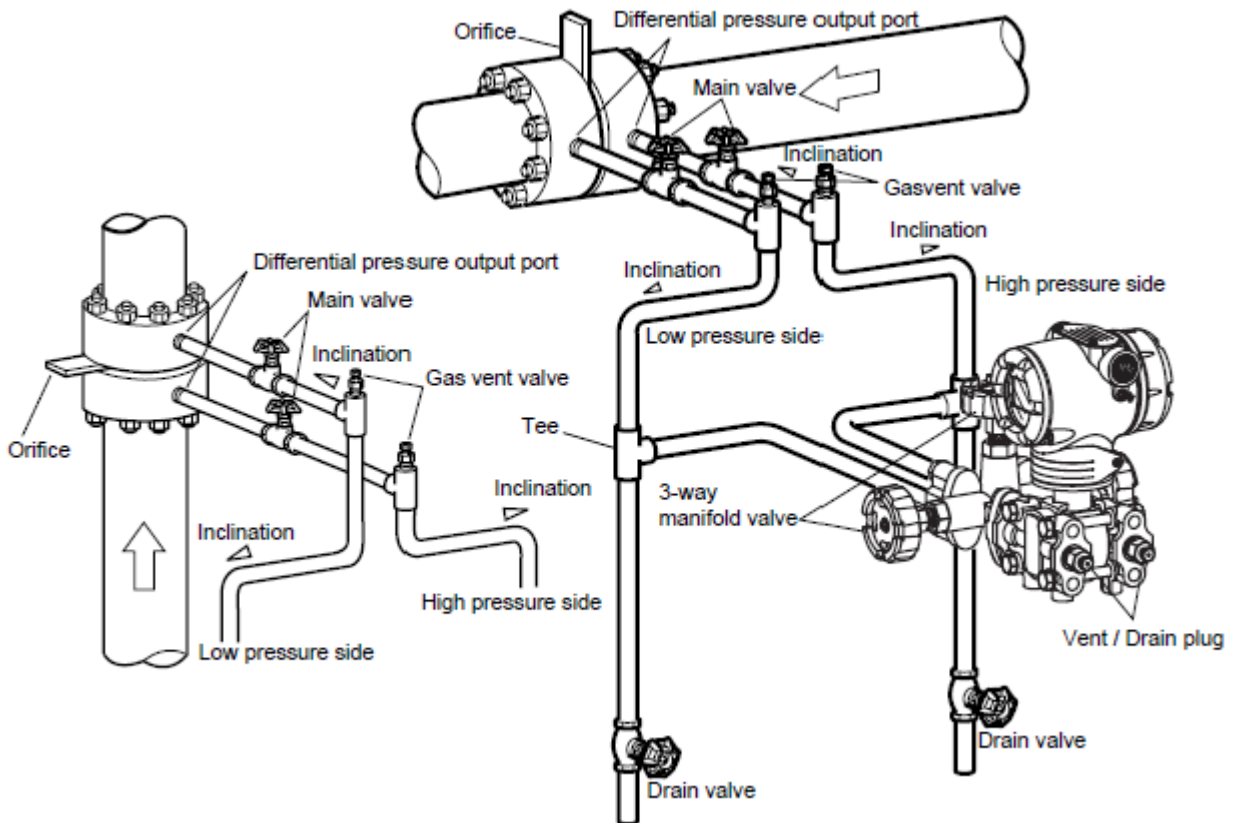

Figure 5. Liquid Flow Rate Measurement
Figure 5 shows a typical example for liquid Flow Rate Measurement. The differential pressure transmitter is located below the differential pressure output port of the process pipe. This minimizes the static head effect of the condensate.
- ◆ Incline the pipe as indicated in Figure 5 at the differential pressure output port.